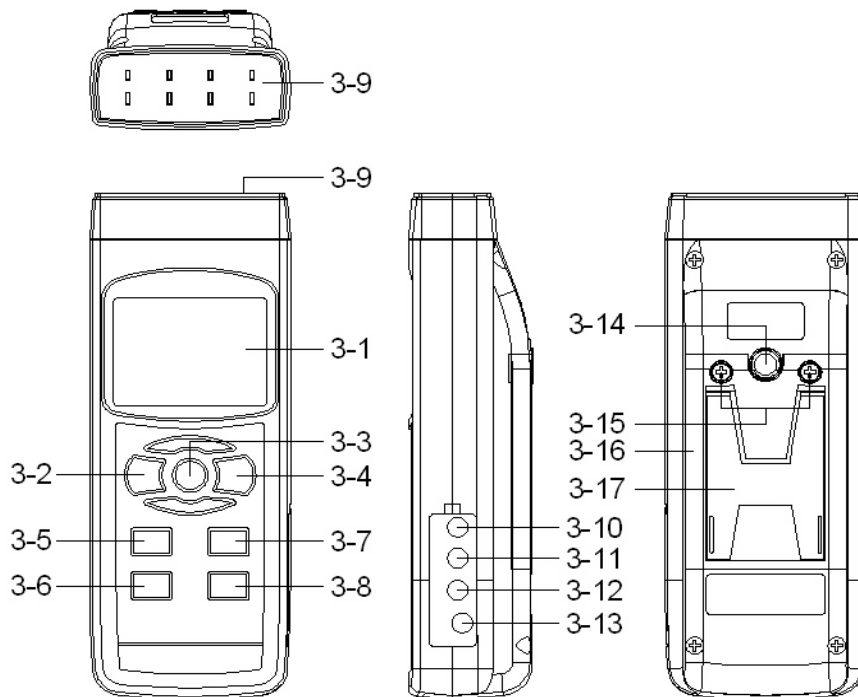

Fig. 1
1) Power on the meter by pressing the " Power button " (3-2, Fig. 1) once (> 1 sec).
3) Select the temperature unit to °C, °F by pressing the " °C/°F button " (3-6, Fig. 1)
4) Insert the Type K probes into the " T1, T2, T3, T4 input socket " (3-9, Fig. 1).
All the measuring procedures are same as the Type K (section 4-1) except to select the function to " Type J " by pressing the " Function button " (3-5, Fig. 1) once until the up LCD display show " J " indicator.
1) Pressing the " Function button " (3-5, Fig. 1) until the right down LCD display show " Pt "
PT1 input socket (3-10, Fig. 1)
PT2 input socket (3-11, Fig. 1)
Pressing the " T1-T2 button " (3-7, Fig. 1), display will show the difference temperature value between T1, T2 (PT1, PT2) as :
During the measurement, press the " Hold Button " (3-3, Fig. 1) once will hold the measured value & the LCD will show " D.H. " symbol.
* The data record function records the maximum and minimum readings. Press the " REC Button " (3-4, Fig. 1) once to start the Data Record function and there will be a " REC " symbol on the display.
- a) Press the " REC Button " (3-4, Fig. 1) once, the " REC MAX " symbol along with the maximum value will appear on the display.
If intend to delete the maximum value, just press the " Hold button " (3-3, Fig. 1) once, the display will show the " REC " symbol only & execute the memory function continuously.
- b) Press the " REC button " (3-4, Fig. 1) again, the " REC. MIN. " symbol along with the minimum value will appear on the display.
If intend to delete the minimum value, just press the " Hold button " (3-3, Fig. 1) once, then the display will show the " REC " symbol only & execute the memory function continuously.
- a) Press the " REC Button " (3-4, Fig. 1) once to start the Data Record function and there will be a " REC " symbol on the display.
Press the " Logger button " (3-8, Fig. 1) once to start the Data Logger function. The REC symbol will flash per 2 second and the beeper will sound when save the data into the memory. Now the Date Logger function is executed.
Press the " Logger Button " (3-8, Fig. 1) once will save the data one time into the memory, at the same time the symbol " REC " will flash once and the beeper will sound.
c) During the Data Logger function is executed, press the " Logger Button " (3-8, Fig. 1) once will stop the data logger function, the " REC " symbol will stop to flash.
If press the " Logger Button " (3-8, Fig. 1) once again will continuous the Data Logger function.
- 1) Pressing " Sample time button " (3-8, Fig. 1) continuously at least two seconds then release, the display will show :
1) Pressing " R button " (3-7, Fig. 1) once, the display will show as example :
- * The " seconds digits " will be flashed, use the " ▲ button " (3-5, Fig. 1) " ▼ button " (3-7, Fig. 1) to adjust the desiring seconds value (0 to 59).
- * Pressing " Sampling time button " (3-8, Fig. 1) once again, the " minutes digits " will be flashed, use the " ▲ button " (3-5, Fig. 1) " ▼ button " (3-7, Fig. 1) to adjust the desiring minutes value.
- * Pressing " Enter button " (3-4, Fig. 1) once, both the " seconds digits " and " minutes digits " will flashing 4 times then return to normal measuring screen, the sampling time will save into the memory.
During the display flashing, if pressing the " ESC button " (3-3, Fig. 1) will exit the sampling time setting function, the setting value will not be saved into the memory.
1) Pressing " CLR button " (3-6, Fig. 1) continuously at least two seconds then release, the display will show :
2) Pressing " R button " (3-7, Fig. 1) once, the display will show as example :
- * Use the " ▲ button " (3-5, Fig. 1) " ▼ button " (3-7, Fig. 1) to change the right bottom text from " n " to " y ".
- * Pressing " Enter button " (3-4, Fig. 1) once, the data no. will show zero value and flashing 4 times then return to normal measuring screen, the data no. will be erased from the memory.
During the display flashing, if pressing the " ESC button " (3-3, Fig. 1) will exit the memory clear function.